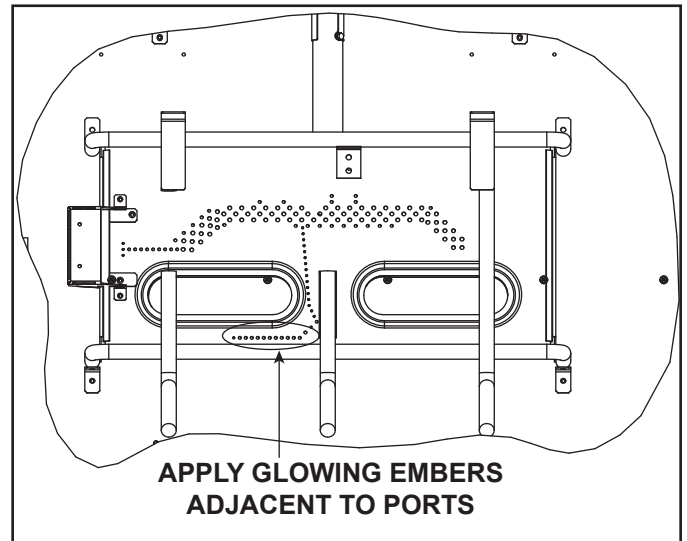

Figure 14.2. Location of Glowing Embers
- Place dime-size pieces of Glowing Embers® just in front of the port trail, but not on or in between the ports (see Figure 14.2). Care should be taken so that the ports are not covered. Failure to follow this procedure will likely cause lighting and sooting problems.